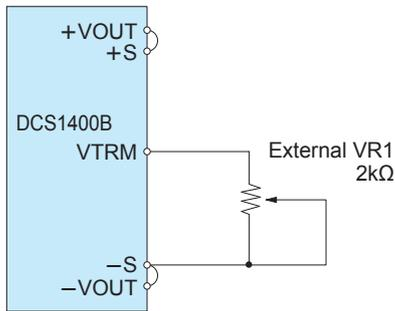

Fig.3.4 Connecting External Devices
(1) Output voltage adjustment by potentiometer
■ By connecting the external potentiometer (VR1) as shown in Fig.3.4, output voltage becomes adjustable.